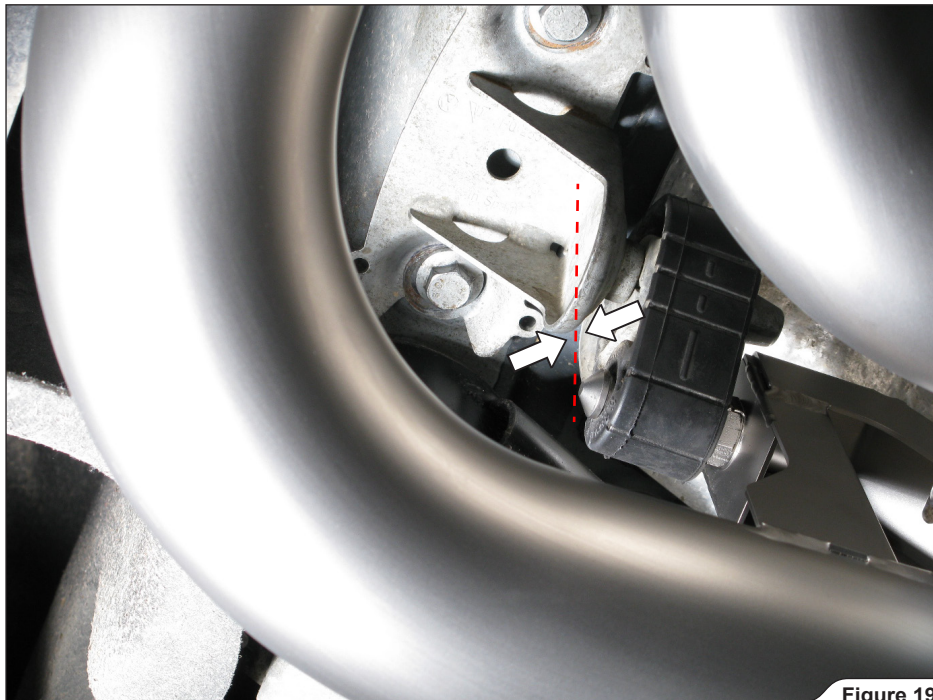

Figure 19
11. **For all models:** adjust the muffler lengthwise in such a way, that the rubber brackets are set vertically in respect to the vehicle chassis, than tighten the muffler's inlet clamps (**Figure 19, 20**).